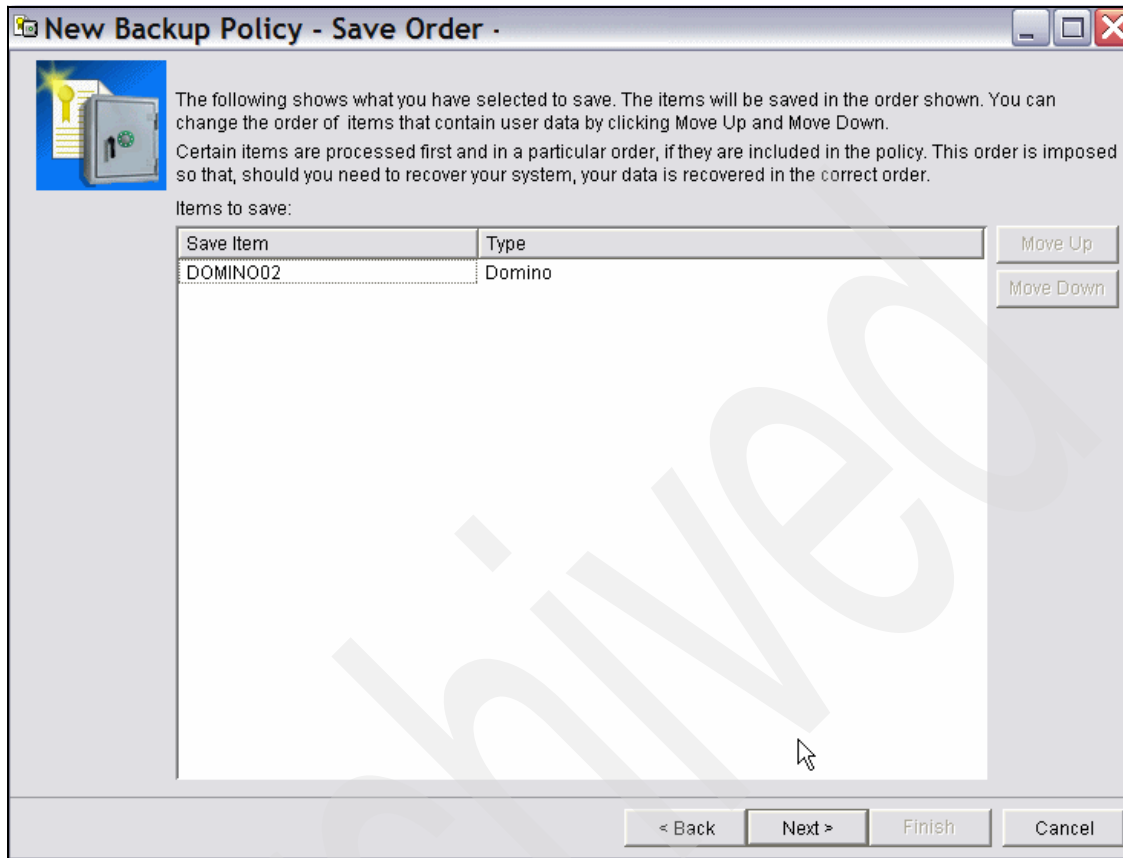

Figure 5-22 BRMS backup policy, save order
9. The Domino Save Order window shown in Figure 5-22 on page 210 shows the order in which backup is done. In this scenario, since only one Domino server is selected, the concept of order does not hold good. Click **Next**.